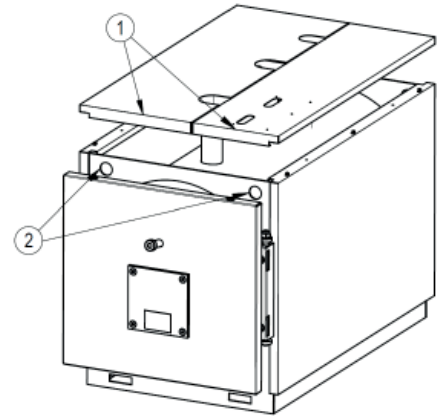

fig. 5
5.2.1 Per modelli PREXTHERM RSW 92N+600N (Fig. 5)